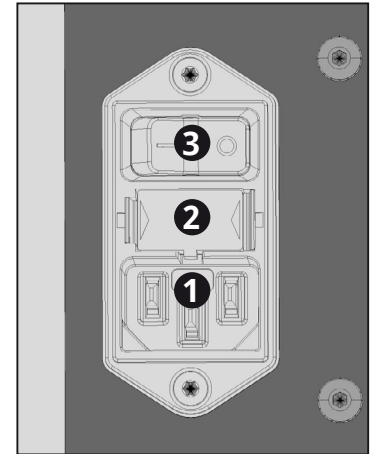

Figure 79: The AC power, fusebox, and power switch unit
- 2 Disconnect all the cables from the power supply module. Unscrew the two (2) 3-millimeter hex socket screws that secure the power supply to the device chassis.
- 2 Flip open the cover of the fuse holder (marked number 2 in Figure 79), and remove the fuses.
2 Flip open the cover of the fuse holder (marked number 2 in Figure 79), and remove the fuses.